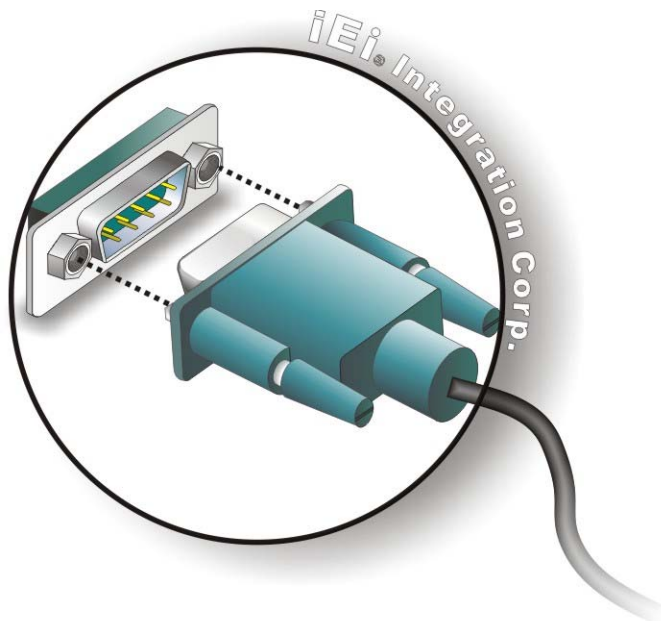

Figure 3-27: Serial Device Connector
Step 2: **Insert the serial connector.** Insert the DB-9 connector of a serial device into the DB-9 connector on the bottom panel. See **Figure 3-27**.